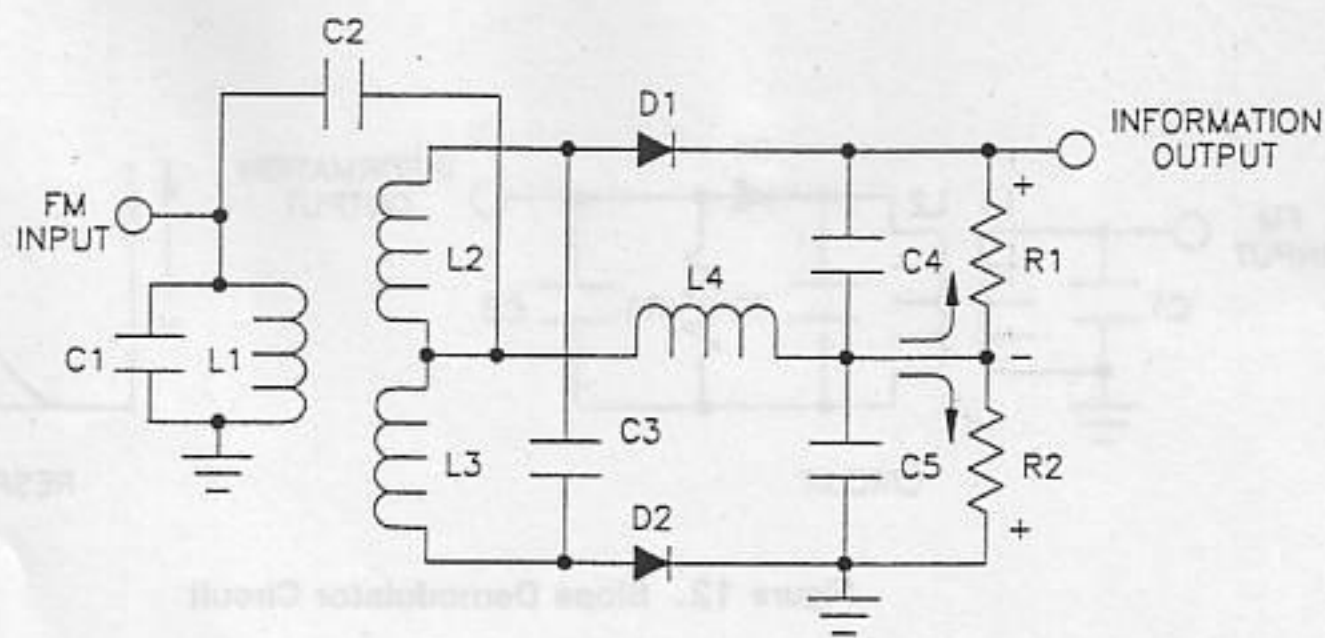
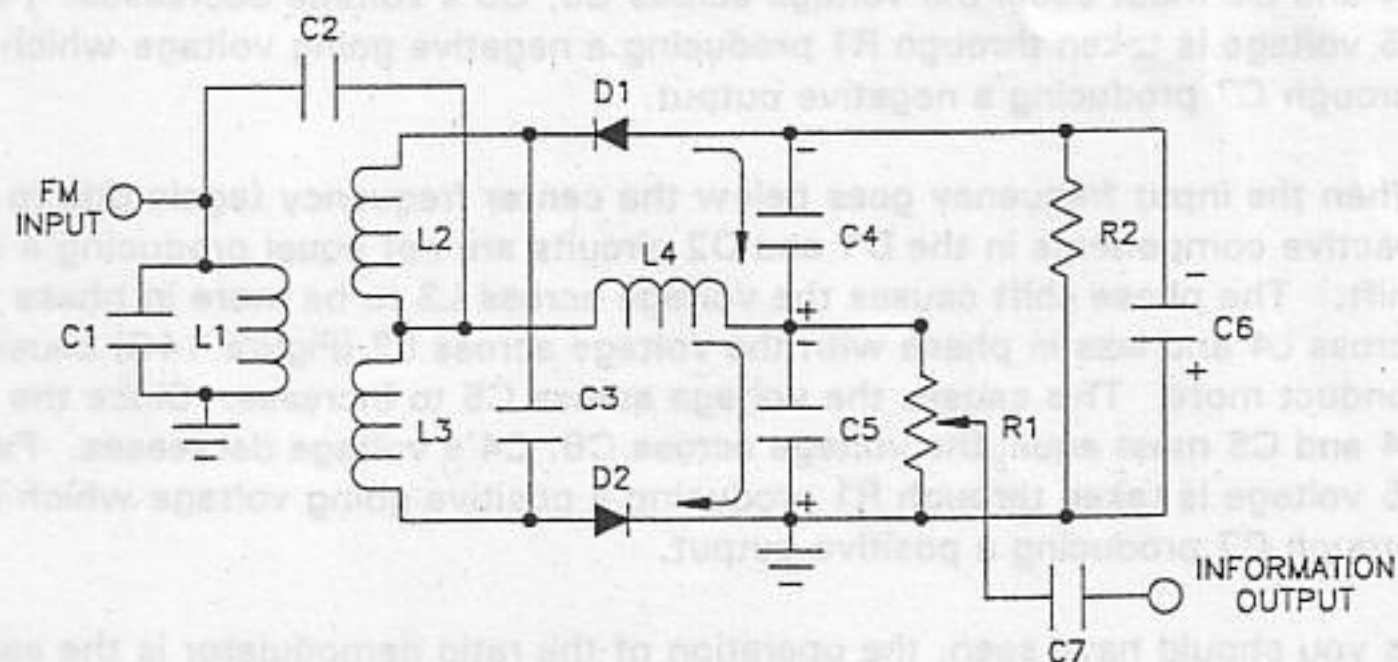

Figure 13. Discriminator Demodulator Circuit
Figure 15. Ratio Demodulator Circuit
A better method to demodulate an FM signal is to use a discriminator circuit as shown in Figure 13. The circuit in Figure 13 is called a Foster-Seeley discriminator and has one major disadvantage. Amplitude variations, which do not contain any information, are coupled to the output signal as noise or static. Normally, a limiter circuit is used before the demodulator which reduces this problem.
The ratio demodulator, or detector, is an improvement of the discriminator demodulator shown in Figure 13. The circuit has its own limiting, thus doing away with a limiting circuit preceding the demodulator. A typical ratio demodulator is shown in Figure 15. Compare the discriminator circuit in Figure 13 to the ratio demodulator in Figure 15.
Second, D1 and D2 are in series with L2 and L3, thus producing current flows and polarities across C4 and C5 as indicated in Figure 15.
4. Refer to Figure 13. What action causes the voltage across R1 to be larger than the voltage across R2?
5. Refer to Figure 15. What action causes the output voltage to decrease?